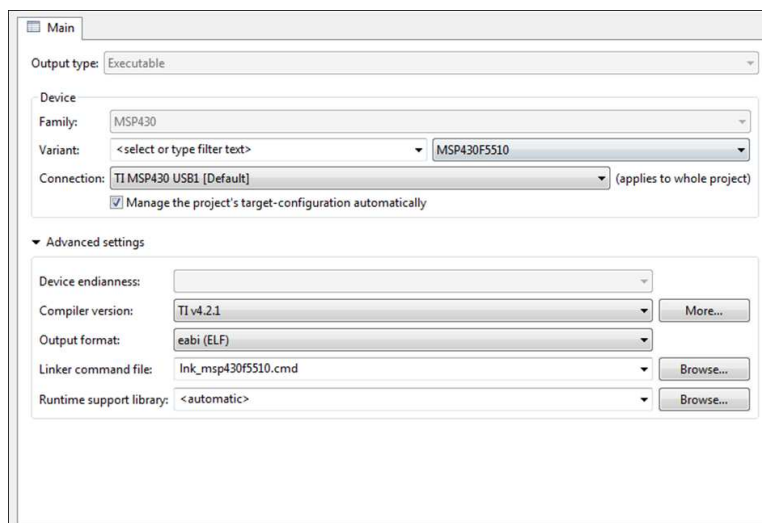

Figure 14. Build Properties of Firmware Project
4. Verify that the general-build properties are set as shown in Figure 14.